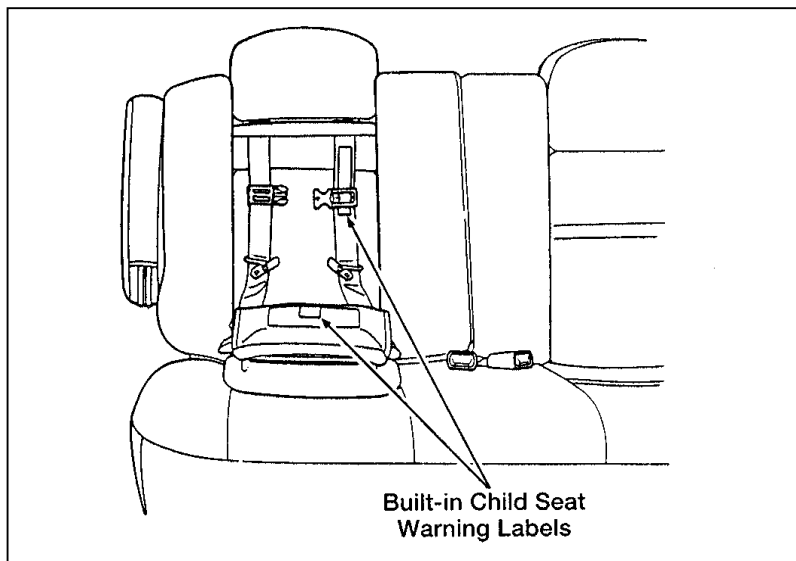

Figure 2: Child seat information and warnings
2. Read the information and warnings on the child seat cushion protector flap and shoulder safety belt. Refer to Figure 2. Check the child's size, weight and age to be sure the child is not too small or too large for the child seat. Then fold the flap down onto the adult seat cushion.